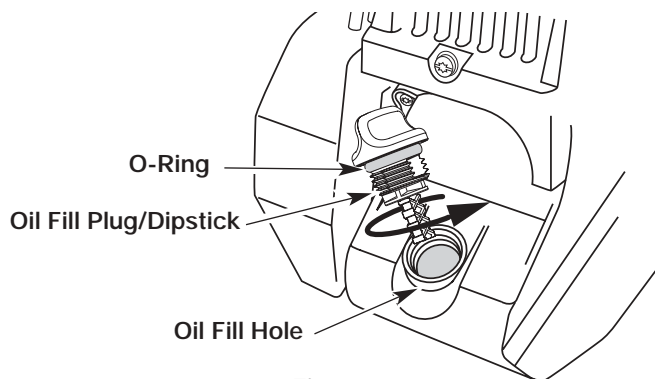

Figure 41
**NOTE:** Make sure the O-ring is in place on the oil fill plug/dipstick when checking and changing the oil. See Figure 41.